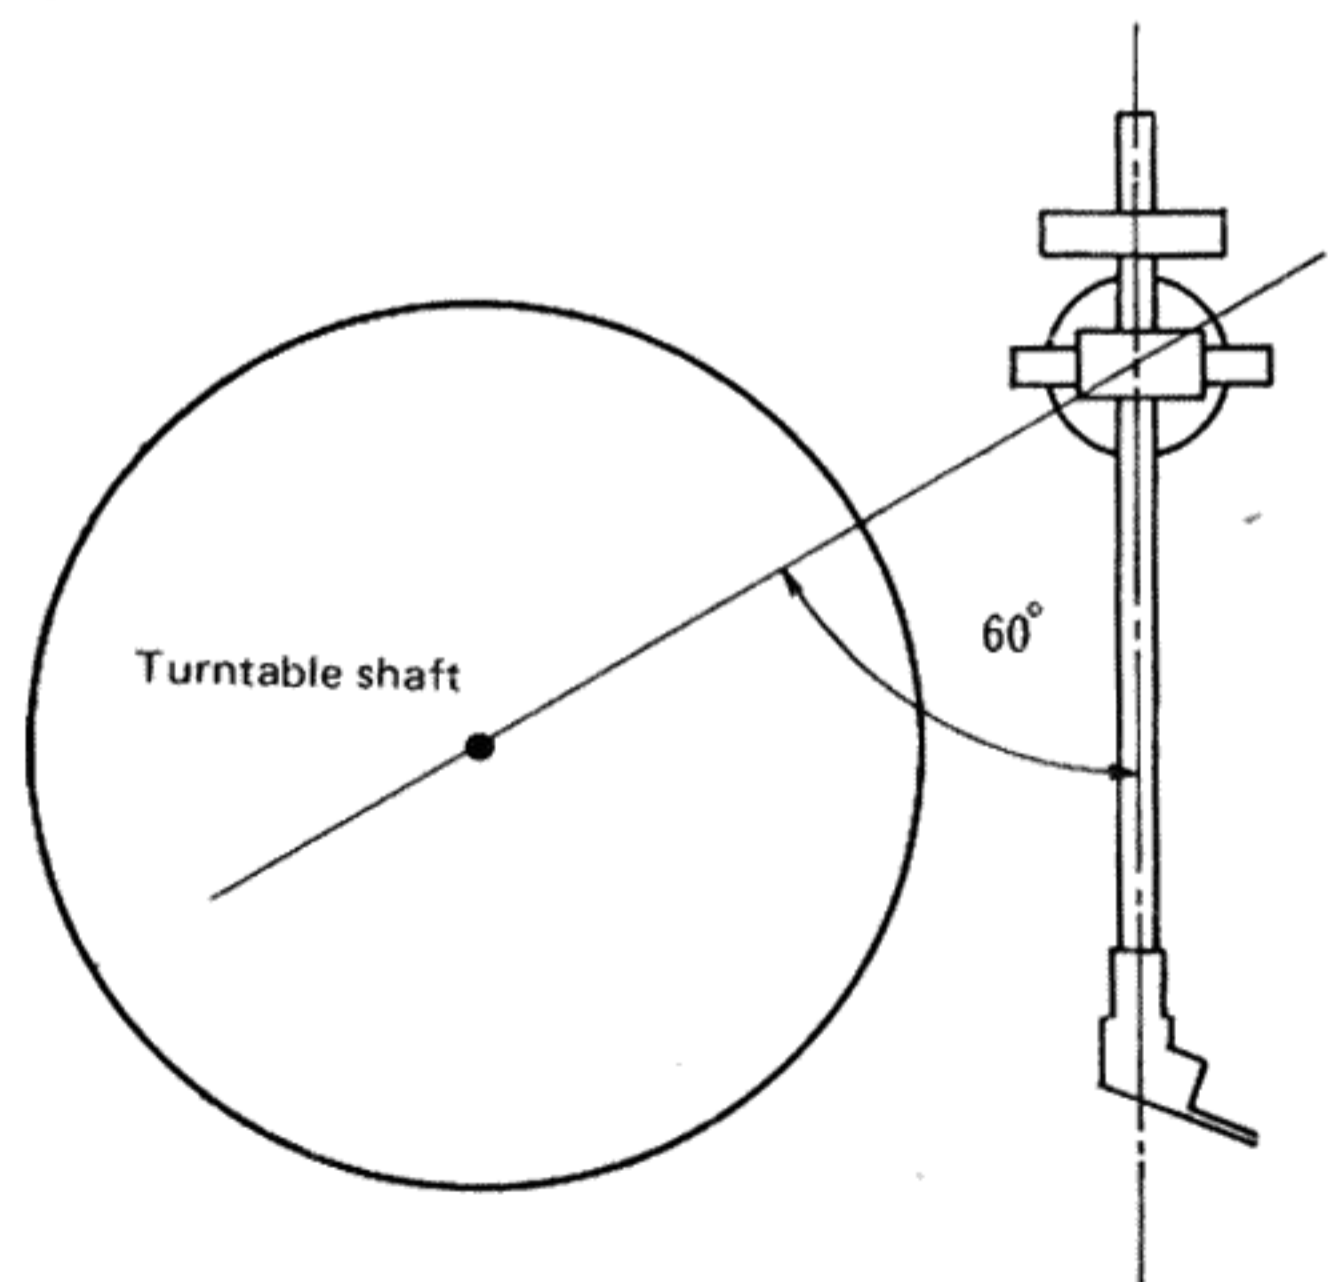

Fig. 2
6) Set the tonearm at an angle of  $60^\circ$  as shown in fig. 2, and secure it.